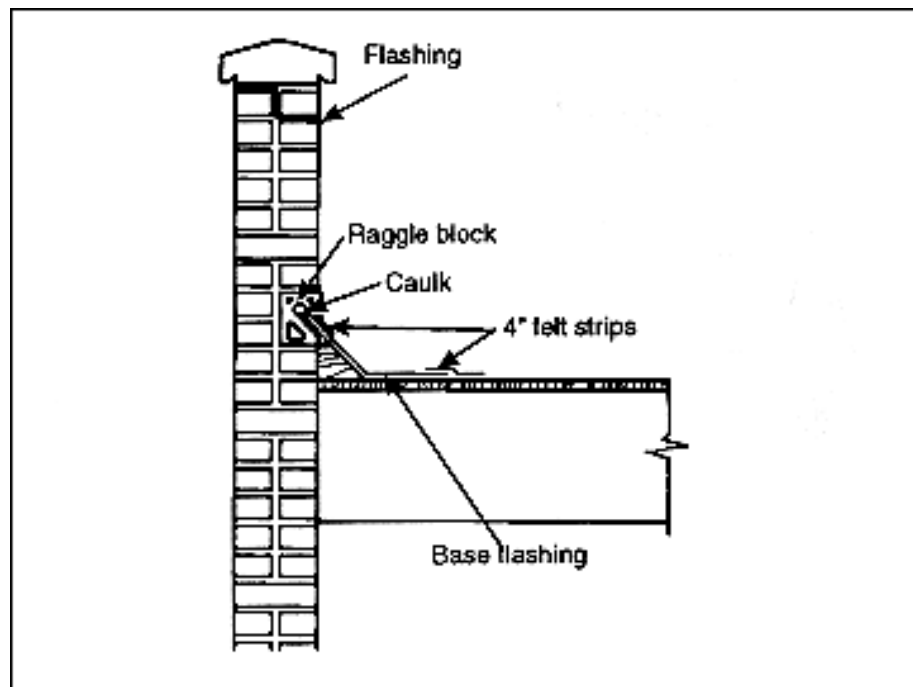

Figure 9-43. Flashing installation at intersection of roof and walls
Step 3. Figure 9-43 shows how to install flashing between the roof and the wall to prevent leakage at the intersection. Fit and caulk the upper end of the flashing into the groove of the rattle block as shown in Figure 9-43.